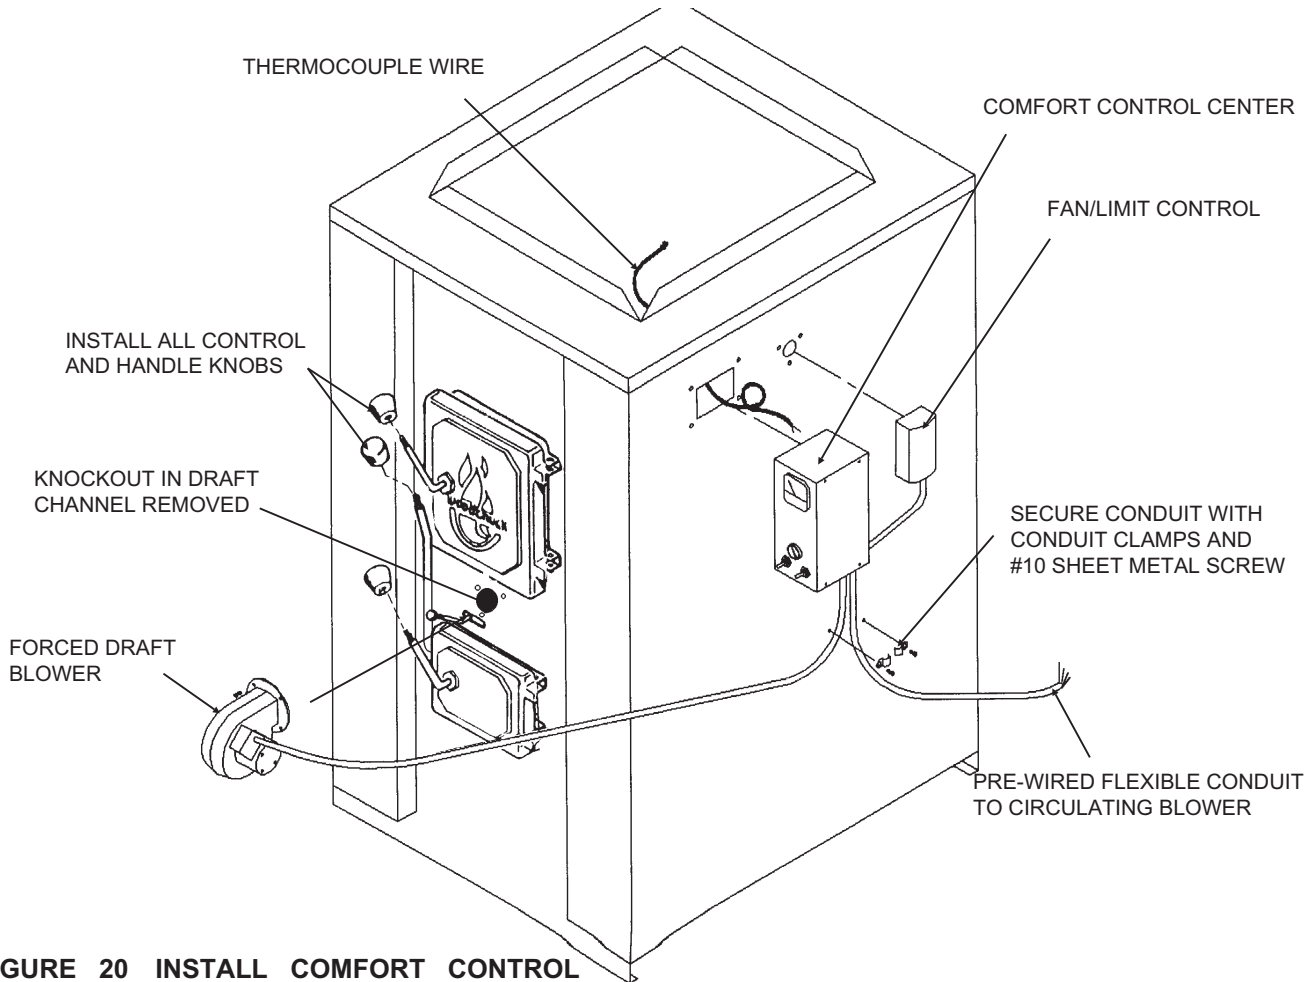

FIGURE 20 INSTALL COMFORT CONTROL CENTER AND FORCED DRAFT BLOWER
1. Install all knobs to control levers and door handles. See figure 20.
1. If you have an optional temperature gauge to monitor heat exchanger temperature in your comfort control center, then the thermocouple wires must be connected to the gauge when installing the control. See figure 20.